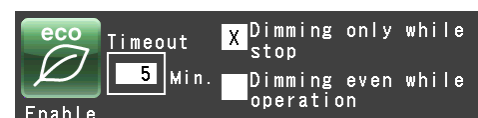

Fig. 3-4-5 (4b) Dialog box that appears when dimming backlight mode is enabled
- Pressing min. when the dimming backlight mode is enabled opens the screen shown in Fig. 3-4-5 (4c) that allows you to set the time when the dimming backlight mode will be engaged. You can set a time between 1 and 180 minutes in one minute increments.
- Touching the screen in dimming backlight mode will return normal brightness to the screen adjusted in step (1).